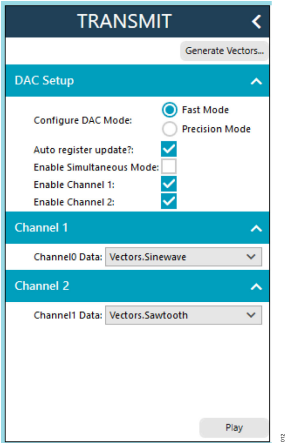

Figure 13. Waveform Generation in Dual Mode
- ▶ **Enable Channel 1/2.** These checkboxes allow enabling channels individually. When both channels are enabled, each one can play a different waveform, as seen in Figure 13. The update rate depends on the **DAC Mode** and the update mode; all the combinations are shown in Table 8.